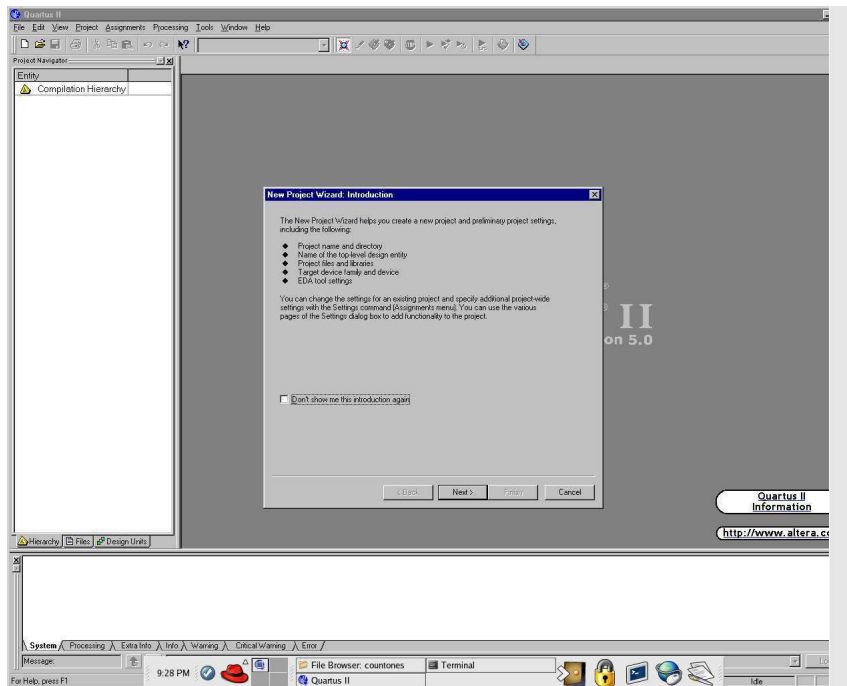

Figure 2: New Project Wizard Introduction
2. Open a new project using New Project Wizard in File menu. Then a wizard opens up as shown in Figure 2. You have to give your inputs for several options to create a new project using the New Project Wizard.